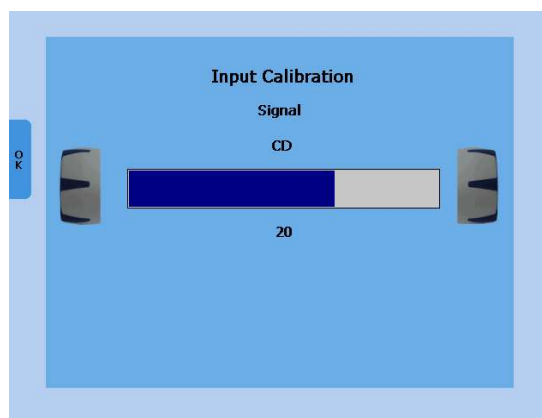

Figure 8
To calibrate the CD speech input, select CD with the Signal Selector key (11). Press the Monitor button (6) and then InCal (17) and the calibration screen appears (Figure 8).